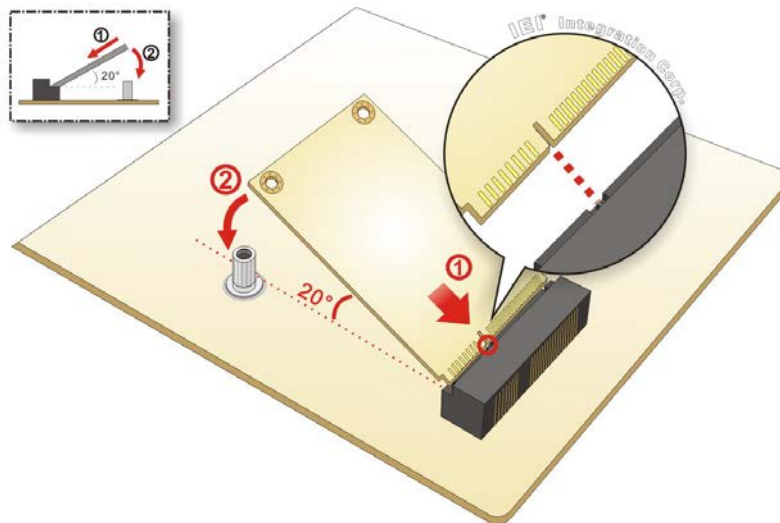

Figure 3-4: Installing an mSATA Module
Step 3: Line up the notch on the mSATA module with the notch on the connector. Slide the PCIe Mini card into the socket at an angle of about 20° (**Figure 3-4**).
Step 4: Secure the mSATA module with the retention screw. Push the other end of the mSATA module down and secure the module with the previously removed retention screw (**Figure 3-4**).